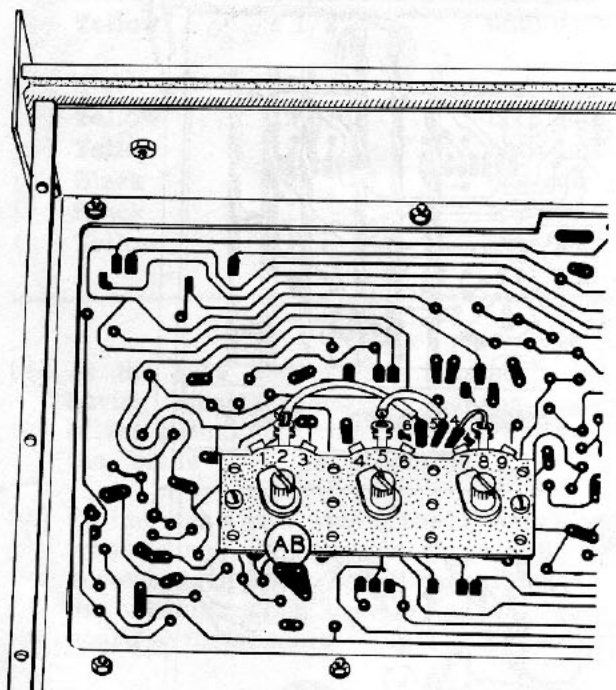

Figure 18
- ( ) Install another triple 250 K $\Omega$  control AB. See Figure 18.